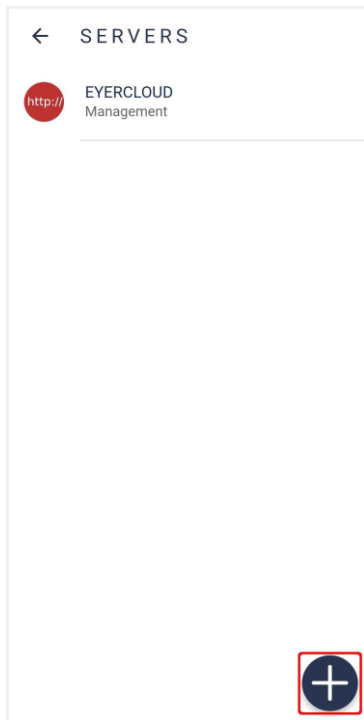
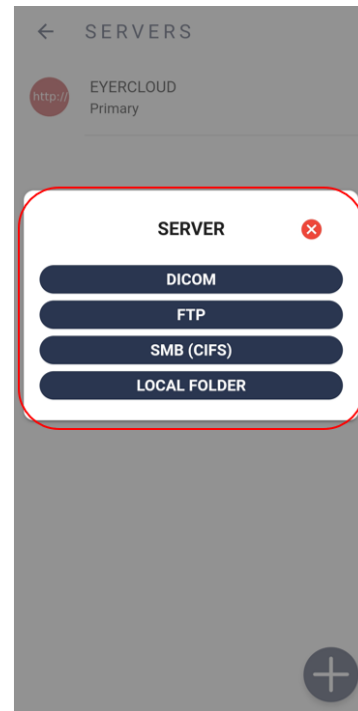

Figure 90: Servers list
Figure 91: Option to create servers
Option 4. “Servers”, enables accessing available servers, figure 90.
Select button , figure 90, to add a new server. Select the server type to synchronize, figure 91, and fulfill information as described in item 3.2.1.3.4.1 Common server setup.